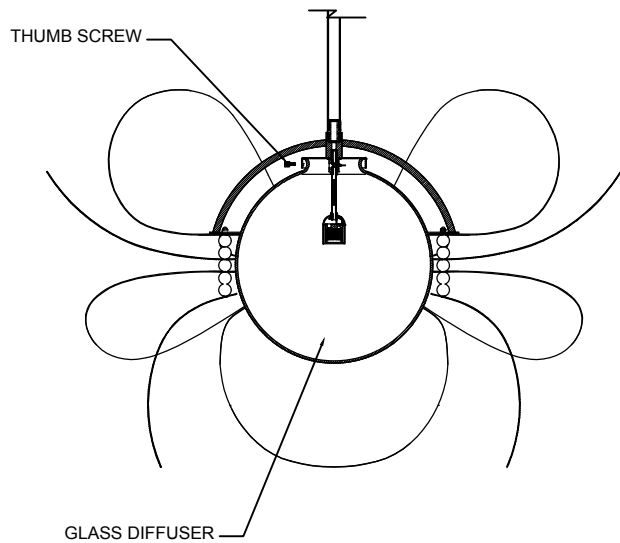

FIGURE-04
8. Install the glass difusser and secure it with thumb screw. (See Figure-04).